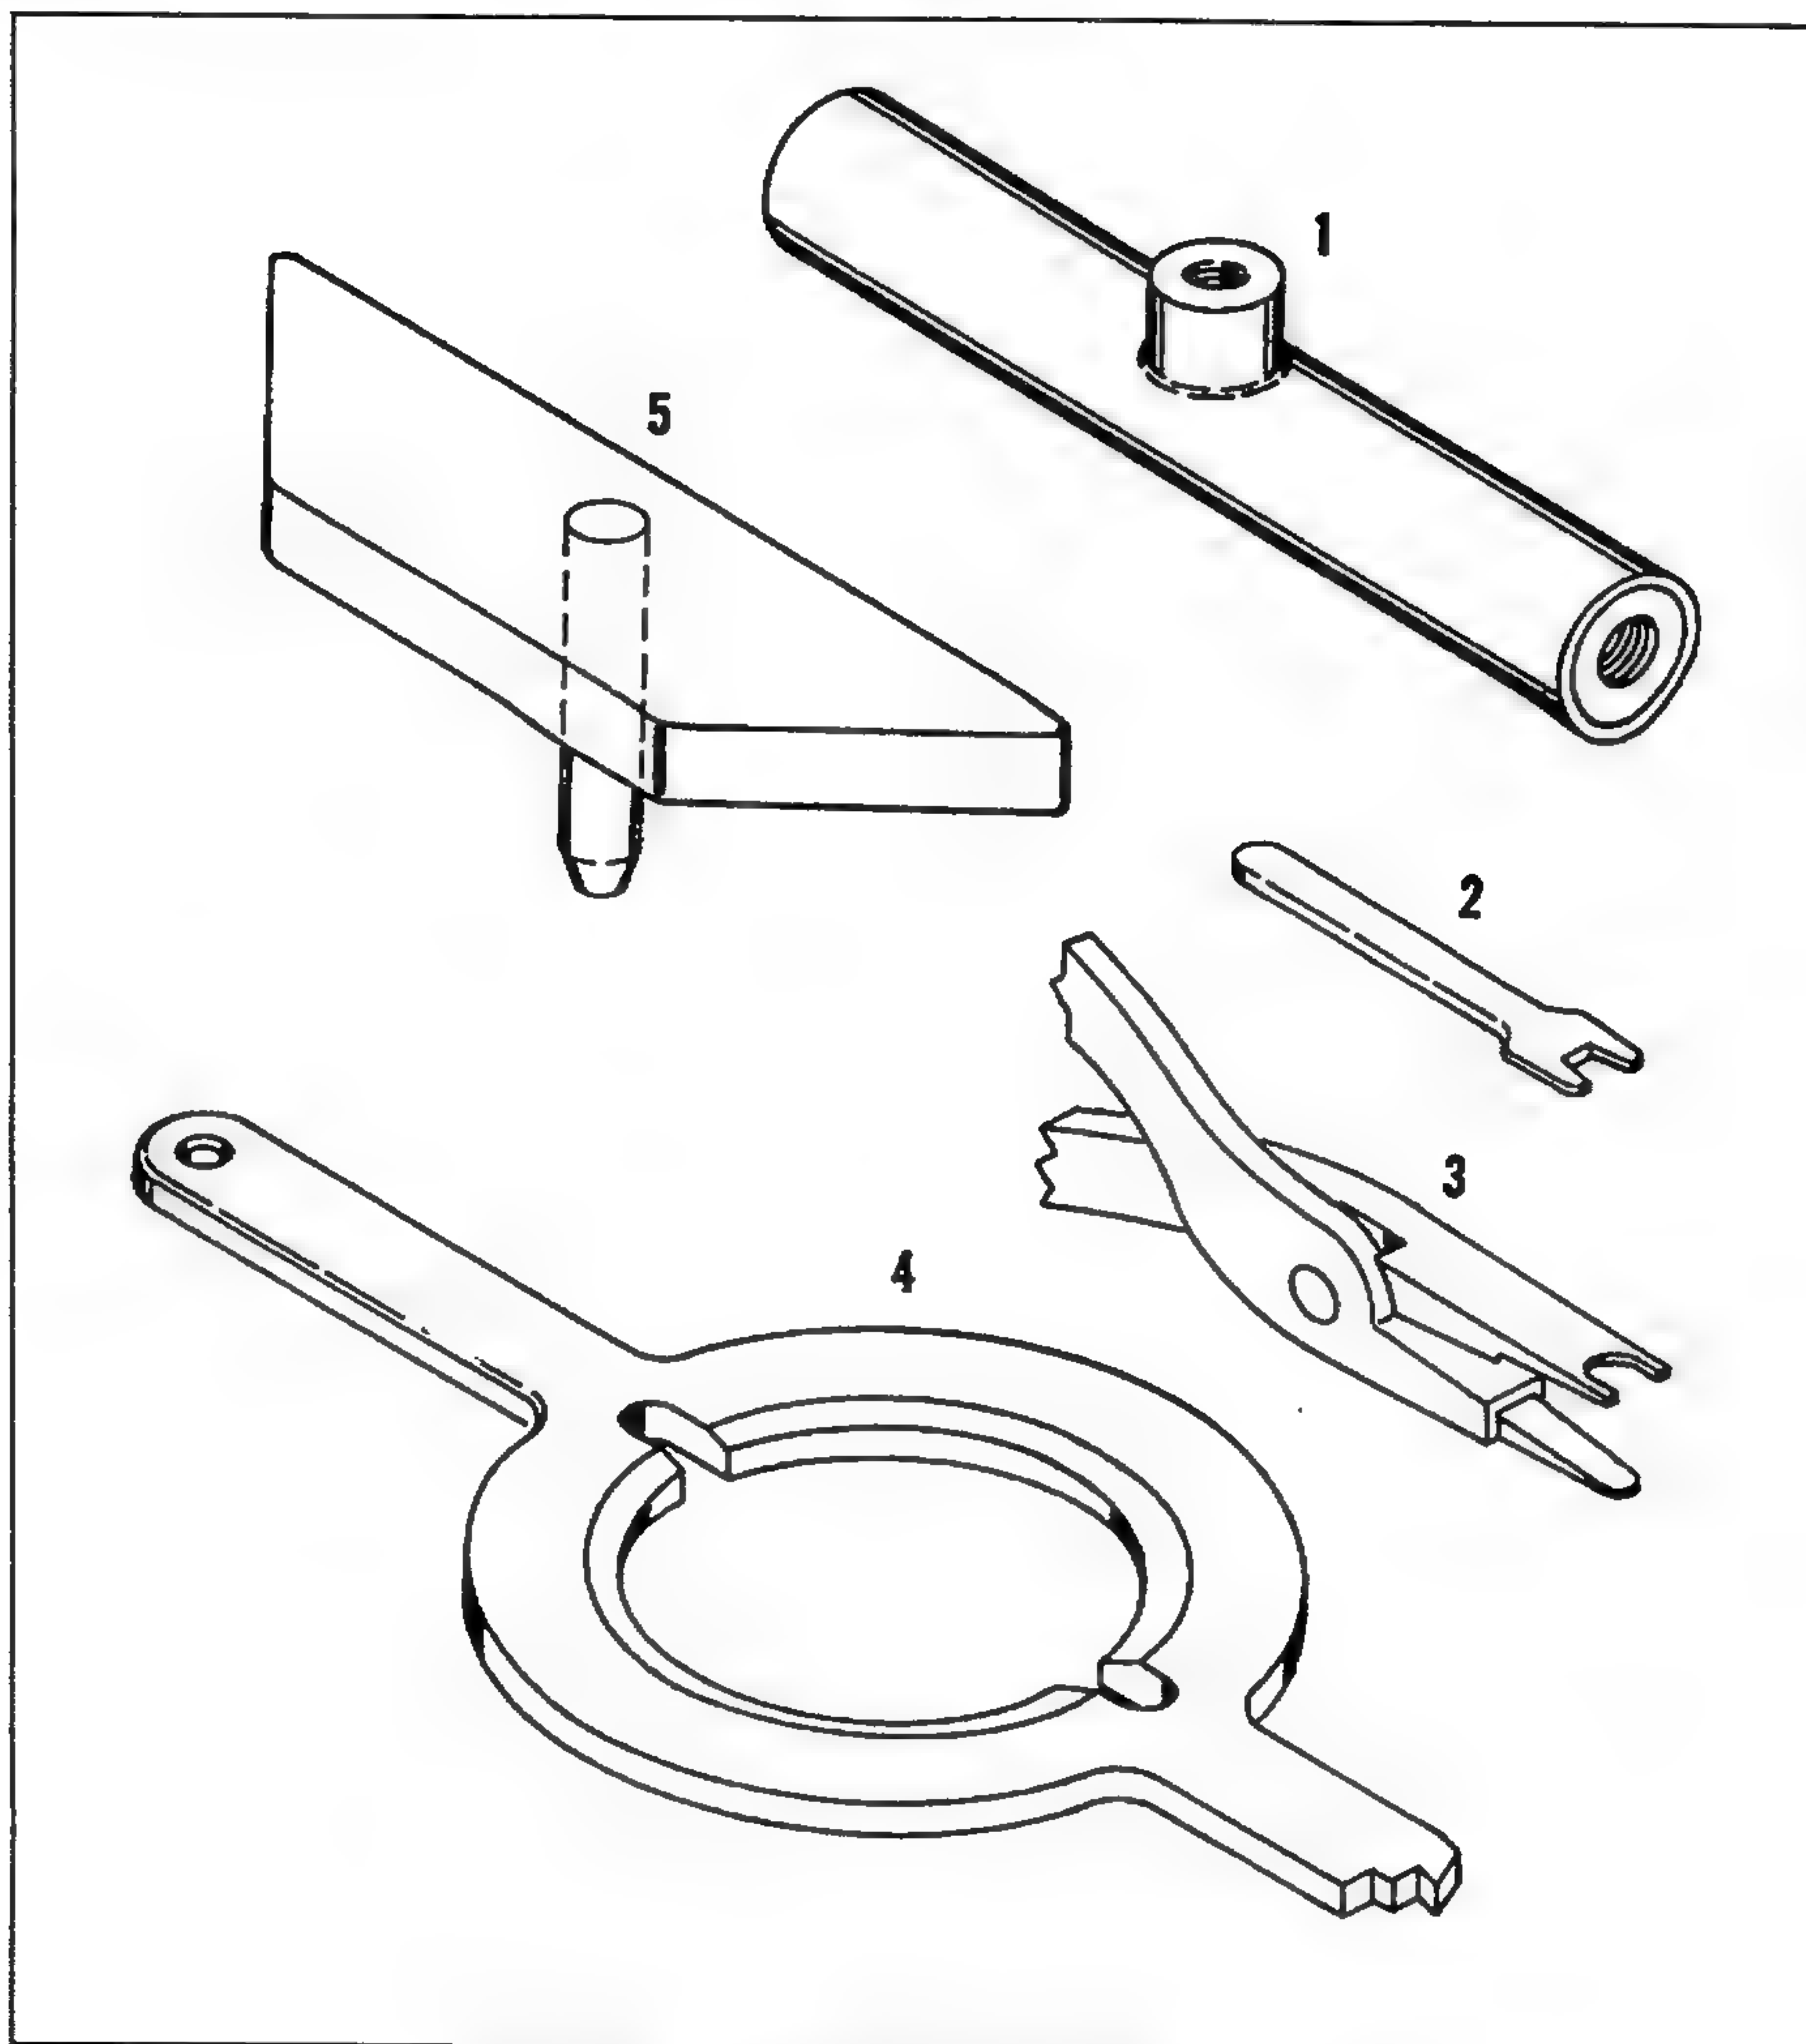

Figure 901: Special Tools and Test Equipment
A list of special tools and/or equipment required for assembly of the 27660 Series Oxygen Regulator Assemblies is presented in Table 701. Entries in the "ITEM NO." column refer to the tool illustrations presented in Figure 901. Equivalent tools and/or equipment may be substituted for the listed items.
- F. Place the unit assembled in step E into the inlet port of the regulator body assembly and finger tighten this unit into shaft (235) until valve (165) just bottoms on seat (175). Install retainer (170); torque retainer to **35-40 IN LBS (4.0-4.5 Nm)**.
- G. Place link positioning gauge (5, Figure 901) on shoulder of case just inside threaded area; position gauge so that pin rests on joint of link (215, IPL Figure 1) near center of case. Note position of pin in relation to bar of gauge; back out valve (165) until top of pin is flush with bar.
H. Remove the gauge and tighten nut (180) against shaft (235) using open end wrench (2, Figure 901). Recheck indication of gauge after tightening nut.
I. Compress spring (200, IPL Figure 1) and press spacer (130) into place using pliers (3, figure 901). Check that spacer is secure and maintains the spring in a compressed position.
K. While holding plate (110) firmly with a standard spanner wrench, install nut (105) on actuator link (220); torque nut to **35 IN LBS (4.0 Nm)**.
L. Place spring (100) onto plate (110), and place guide (95) on spring (100 or 100A). Boss of guide (95) must fit into spring.
N. Align diaphragm assembly (125) so that it is concentric with regulator body. SPARINGLY apply a thin film of oxygen lubricant to the metal ring of diaphragm. Thread cap (85, 90 or 91) into regulator body (275 or 280) using spanner wrench (4, figure 901). When properly installed, all threads of the cap will be below top of regulator body.
O. SPARINGLY apply a thin film of oxygen lubricant to packing (265); install packing on plug (260). Install plug in regulator body (275 or 280).
Q. Secure identification plate (75) to cap (85, 90 or 91) with screws (80).
R. Attach nameplate (60) to cap (85, 90 or 91) and lockwire the cap to the regulator body per the applicable instructions of MS 33540.
S. Place nipple (140) into nut (145); torque nut to **300 IN LBS (33.9 Nm)**. SPARINGLY lubricate the internal threads of nut (135) with oxygen lubricant and thread the nut onto nipple (140). SPARINGLY lubricate ring (150) with oxygen lubricant and place the ring against nut (135). Position packing (155) on ring (150) after lubricating the packing SPARINGLY with oxygen lubricant. Press filter (160) into regulator inlet port and then thread nipple (140) into port. Secure nipple and then tighten nut (135) against regulator body (275 or 280).
T. Thread nut (245) onto elbow (240) and place packing (250) against nut (245) after lubricating the packing SPARINGLY with oxygen lubricant. Thread elbow (240) into regulator outlet port and secure nut (245) against regulator body.
Special test equipment required for testing of the 27660 Series Oxygen Regulator Assemblies are presented in Table 901. Special tools and/or equipment required for assembly/disassembly of the Oxygen Regulator Assemblies are listed in Table 902. Figure 901 illustrates some of the special tools test equipment listed in Tables 901 and 902.